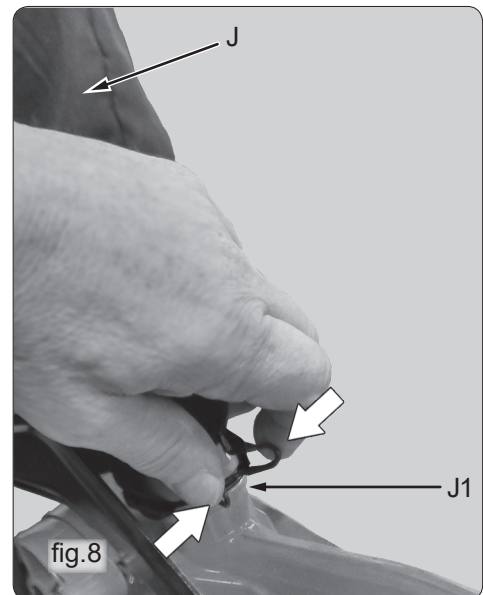

fig.8
1. Connect a dust collection system hose (not included) to the dust collection port nozzle on the back of the metal guard (J1, fig.8).